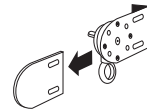

Fig 2
- a. Start by sliding off the bracket cover on the clutch unit if installed (Fig 2).